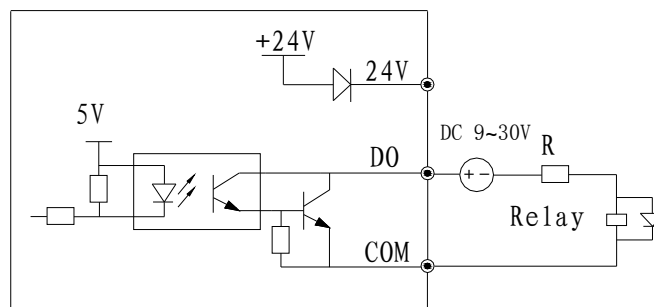

Figure 2-22 On-off output connection mode 2 of multi-function output terminals
2) Multi-function output terminals Y as discrete output can also use the external, 9~30V, power supply and the wiring method is shown in Figure 2-22